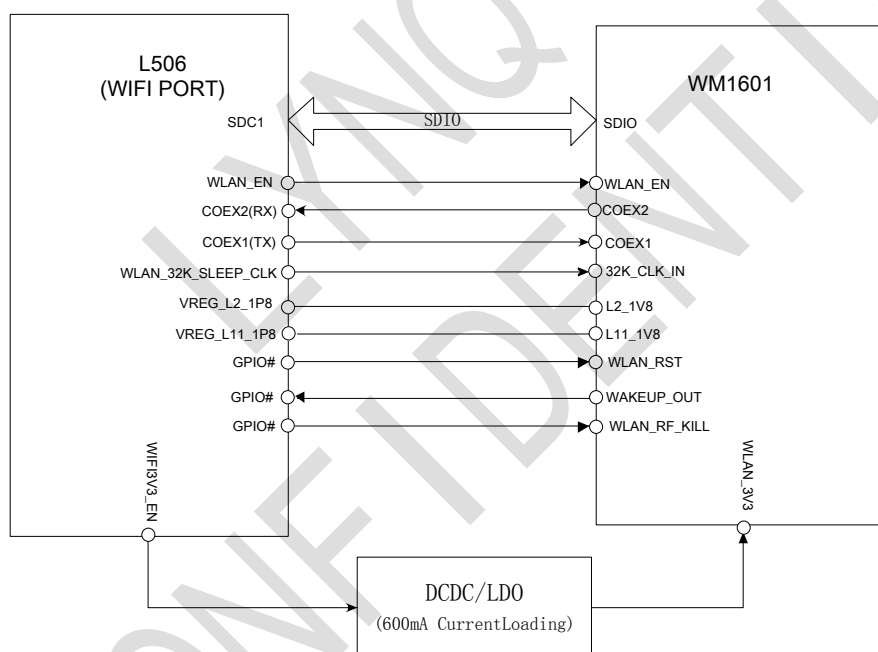

Figure 3-27 WIFI interface application circuit (MOBILTEK WM1601)
- Figure 3-27(a) TPS22921YFPR and ISL91127 WLAN3.3 V power solutions, customers can also choose other DCDC power supply, ensure WLAN3.3 V power supply capacity is greater than 600 mA